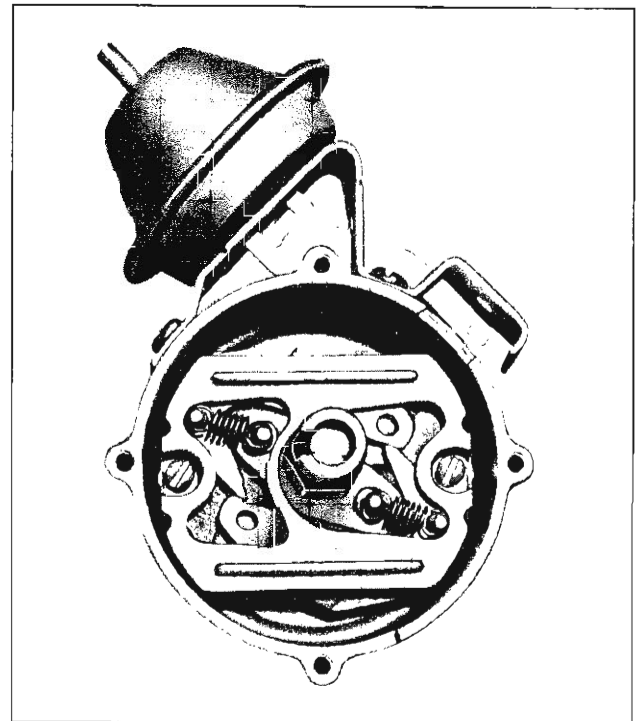

Fig. 46—Weights, Weight Cover Installed
2. Install weights on their pivot pins, replace weight springs. Install weight cover and stop plate (fig. 46).